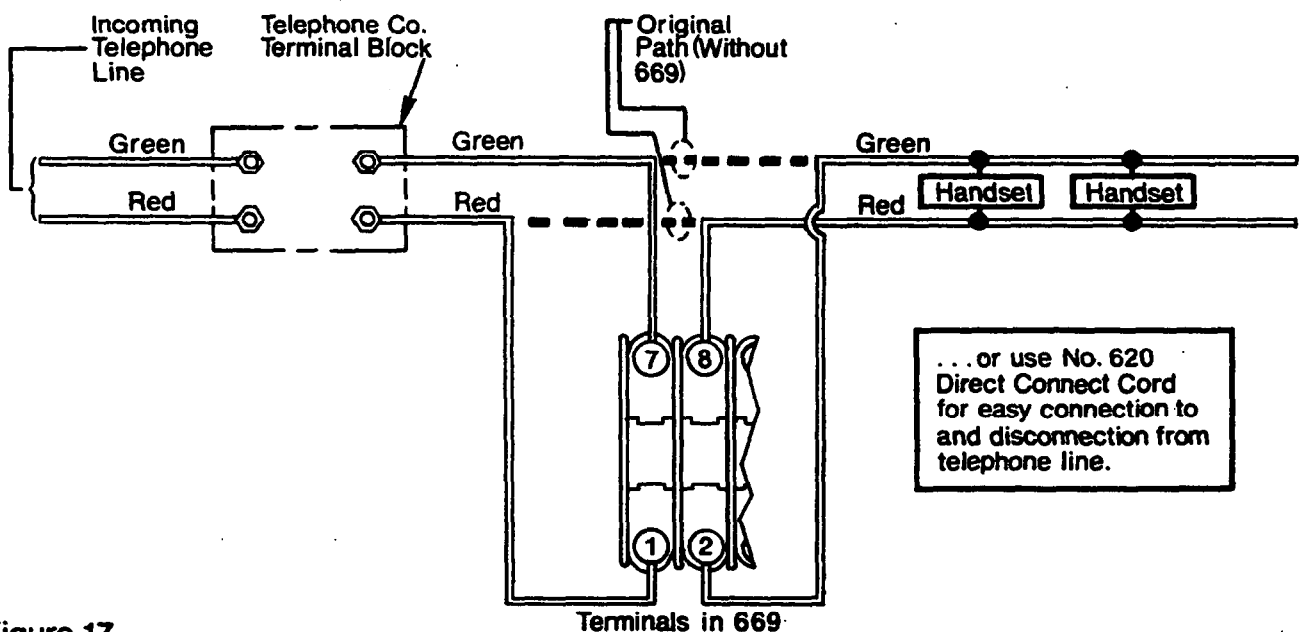

Figure 17
1. Not using a coupler: If a telephone company coupler is not used, the telephone line, usually the red and green wires, can be connected directly to terminal numbers 1 and 7 of the 669. Since the 669 has built-in line seizure priority, it is recommended that all handsets be connected to terminal numbers 2 and 8 of the 669. This insures that the 669 will control the telephone line and that a handset off-hook will not prevent the completion of a call to the central monitoring station. (See Fig. 17 for connections.)